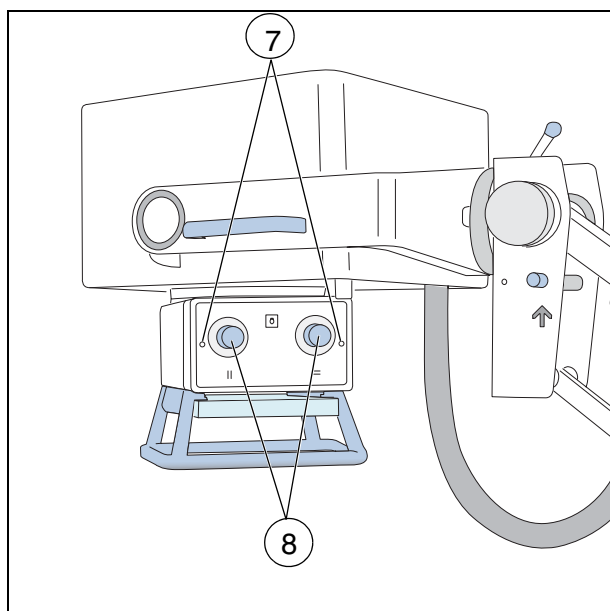

Fig. 7
- Remove the front panel after you have removed the two screws (7/Fig. 7).
- Turn both knobs (8/Fig. 7) to the end position and remove them.
- Remove the front panel after removing both screws (7/Fig. 7).